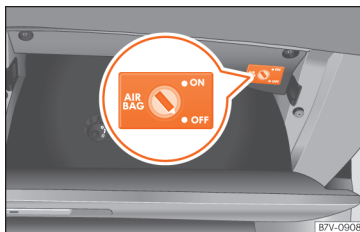

Fig. 18 In the glove compartment, on the front passenger side: key switch for activating and deactivating the front passenger airbag.
- Insert the key into the slot of the switch for deactivating the front passenger airbag » » » Fig. 18. About 3/4 of the key should enter; this is as far as it will go.